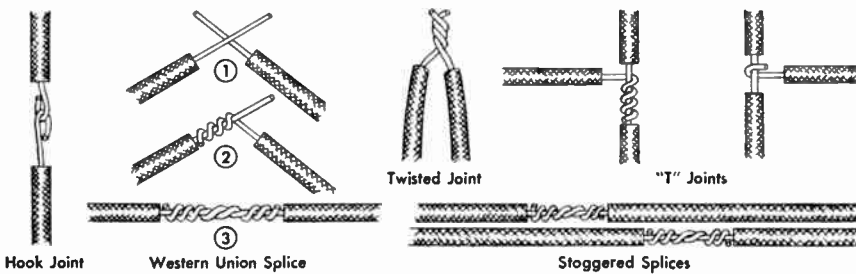

Fig. 6. Types of joints used for connecting two wires together
**Soldering Two Wires Together.** The diagrams in Fig. 6 illustrate the different types of joints that can be used for connecting one wire to
The T joints in Fig. 6 are used for connecting one wire to some point other than the end of another wire. In all cases, remove the insulation at the desired point by cutting or crushing, being careful not to nick the wire. The squeezed hook joint is of course more permanent than the open hook. The twisted-around T joint provides maximum permanence along with mechanical strength.
Always stagger the joints as in Fig. 6 when splicing line cords or other lines or cables having more than one wire. Then, even if the tape on the joints gets loose, the bare joints cannot touch each other and cause trouble.